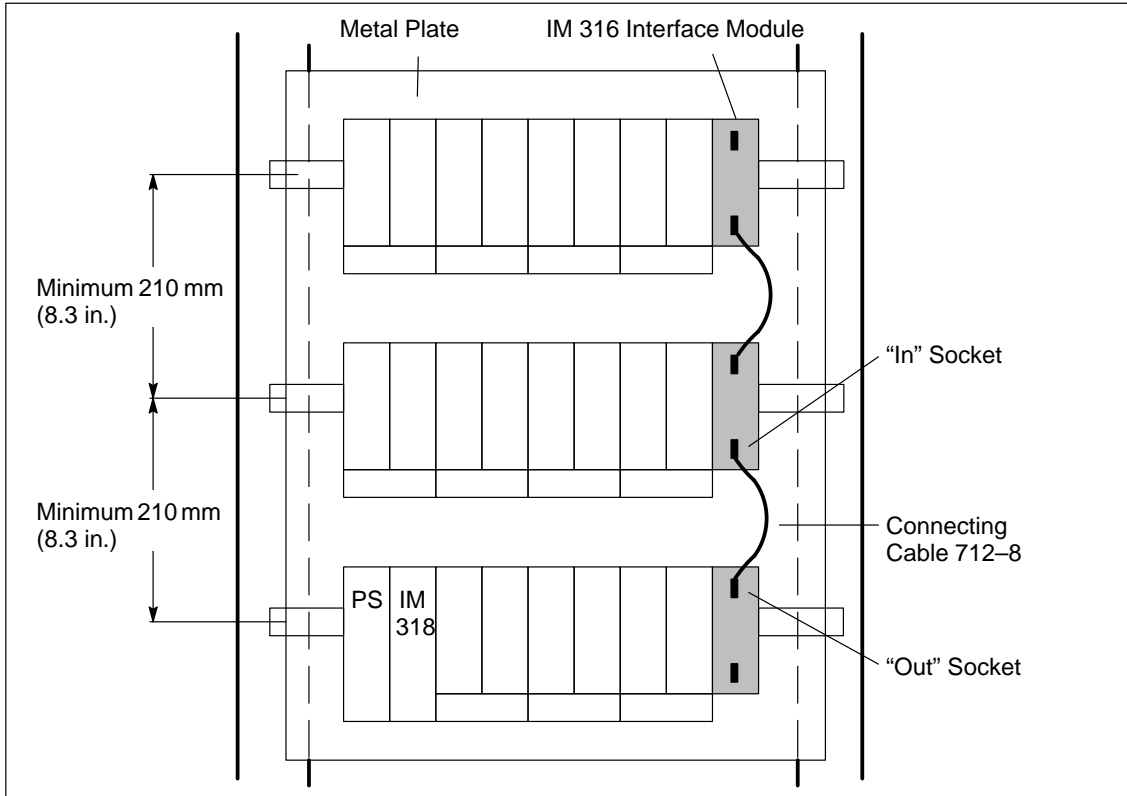
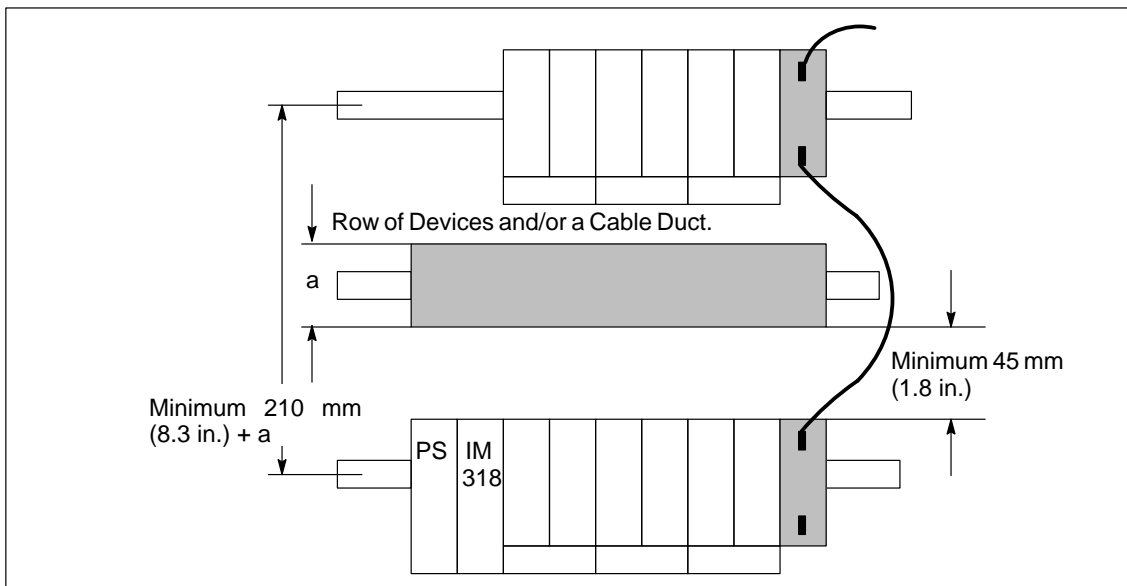

Figure 3-6 Multi-Tier Configuration in a Cabinet Using IM 316 Interface Modules
Figure 3-7 Multi-Tier Configuration with a Row of Devices
5. If you are using IM 316 interface modules, use a 712-8 connecting cable to connect the two modules and secure the connectors of the cable with two screws each (see Figure 3-6).
Make sure that you include at least 210 mm (8.3 in.) net clearance between the tiers (see Figures 3-6 and 3-7).
Figure 3-6 shows a multi-tier configuration using IM 316 interface modules in a cabinet. Cabinet installation can be necessary under following conditions:
If you use the vertical configuration, you must maintain the same minimum clearances as with the horizontal configuration. (see Fig. 3-6 or Fig. 3-7).